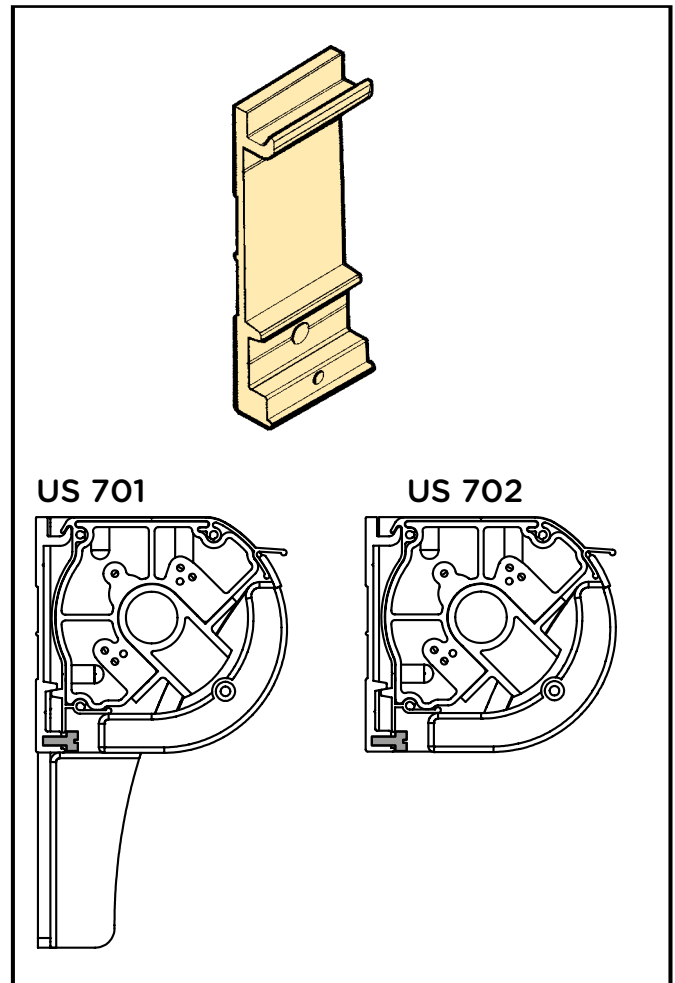

fig. 7 : Wall brackets
- After the placing of the wall brackets the housing is fitted in the brackets (fig. 7).